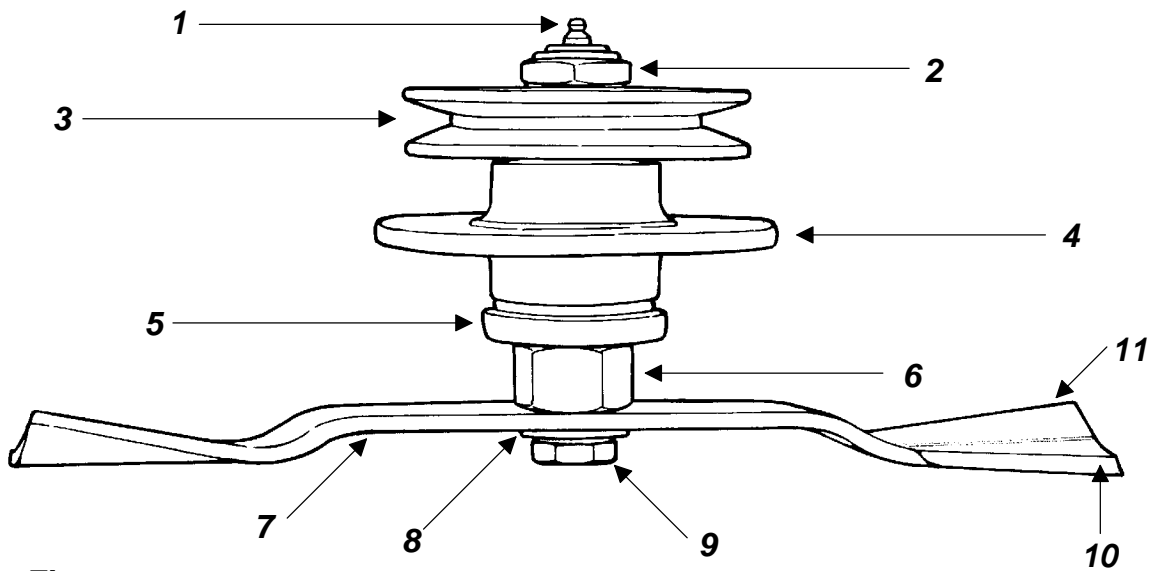

Fig. 7
1. The blade turns in a **counter clockwise** direction when viewed from the bottom of the deck. The cutting edge must be towards the direction of rotation. The lift wing of the blades is closest to the deck and the cutting edge away from it (**see fig. 7**).
2. Install the cup washer (**see fig. 7**) over the blade bolt and secure the blade in place as described above.
2. Remove the nut holding the pulley to the spindle shaft (see fig. 7).
6. Reassemble in reverse order **ensuring that the nut securing the top pulley (see fig. 7) is tightened to 118 lb. ft.**